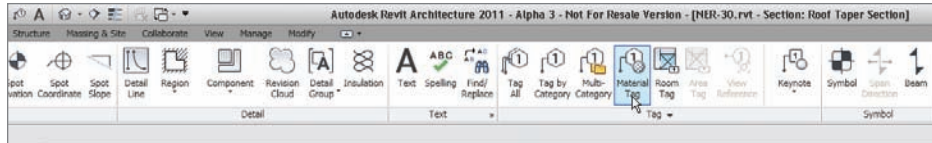

FIGURE 12.53 On the Annotate tab, click the Material tag button on the Tag panel.
7. On the Annotate tab, click the Material Tag button on the Tag panel, as shown in Figure 12.53.